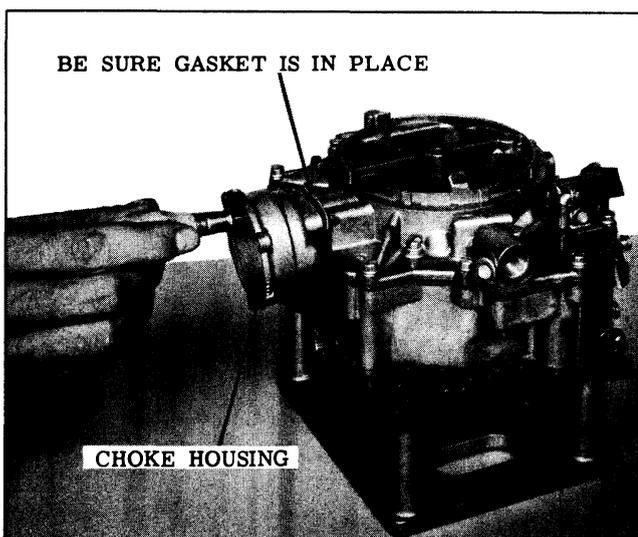

Fig. 8-103 Assembly of Choke Housing.
4. Assemble the choke housing and gasket to the air horn and tighten with two attaching screws. (See Fig. 8-103)